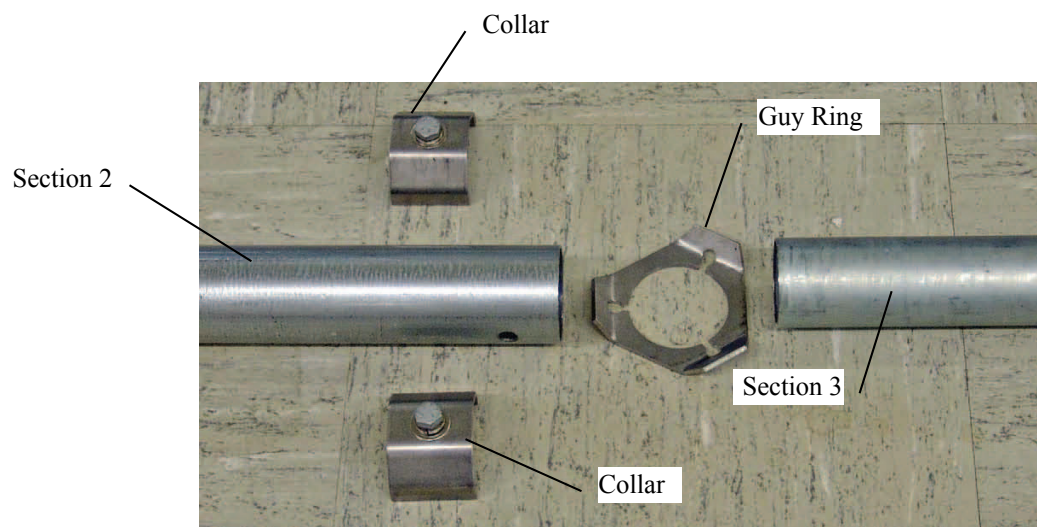

FIGURE 3-9. Guy ring, mast Section 2 and mast Section 3
Step 7: Remove the collars from Section 3 and place next to the mounting holes in Section 2 (see FIGURE 3-8 and FIGURE 3-9).
Step 8: Remove guy ring from bottom guy kit, pn 21663 (see FIGURE 3-9 and FIGURE 3-10).